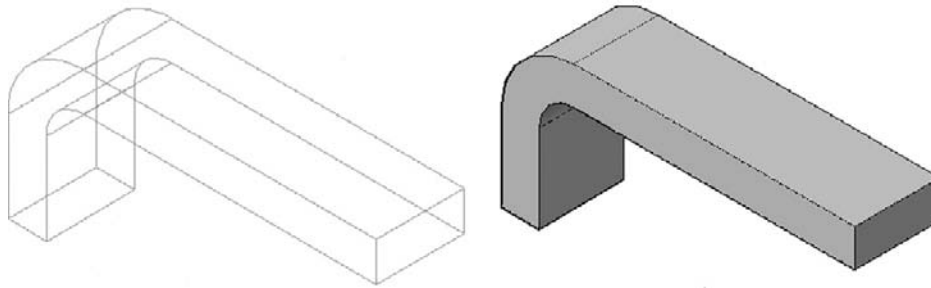

FIGURE 25.41
Step 3. Select the path and the sweep is produced, as seen shaded and colored in the SE Isometric view in Figure 25.41.